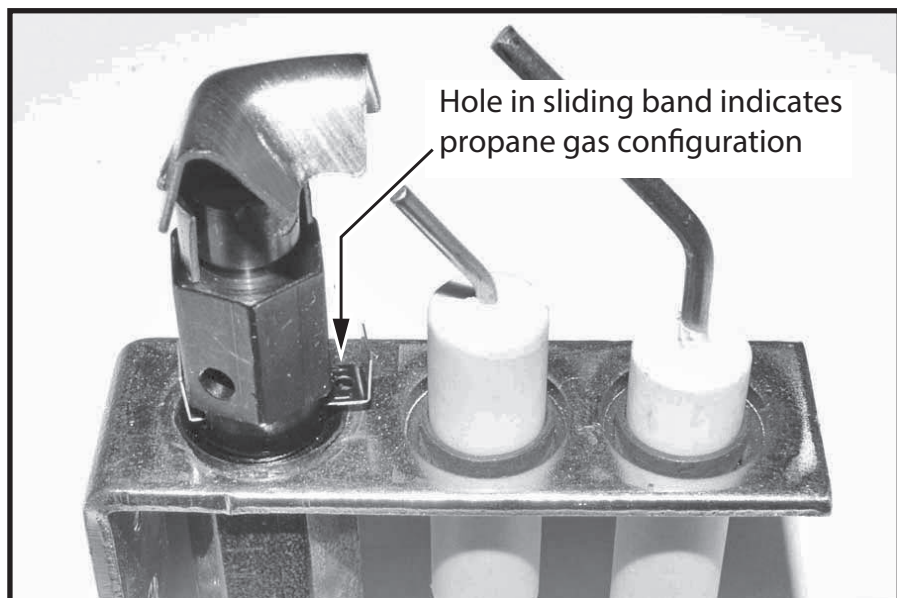

Figure 46: Pilot band in propane gas position.
7. Slide the pilot adjustment band over (Figure 46) and ensure that the hole in the orifice band is showing.